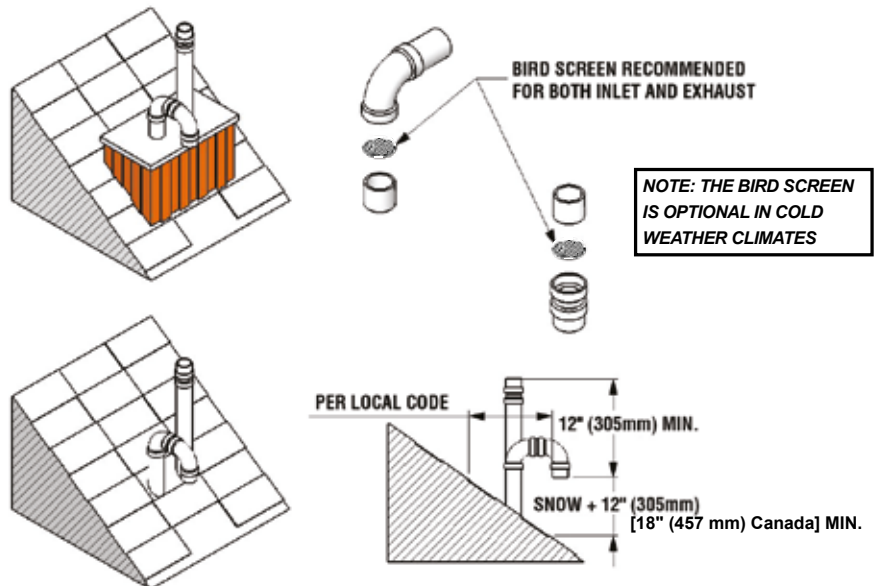

Figure 10: Rooftop vent terminal configurations
- The intake air pipe is not typically drained, so it must be terminated with a down-turned elbow (see Figure 10). The intake pipe does not need to penetrate the roof at the same elevation as the exhaust (as shown); lower down the roof is OK.